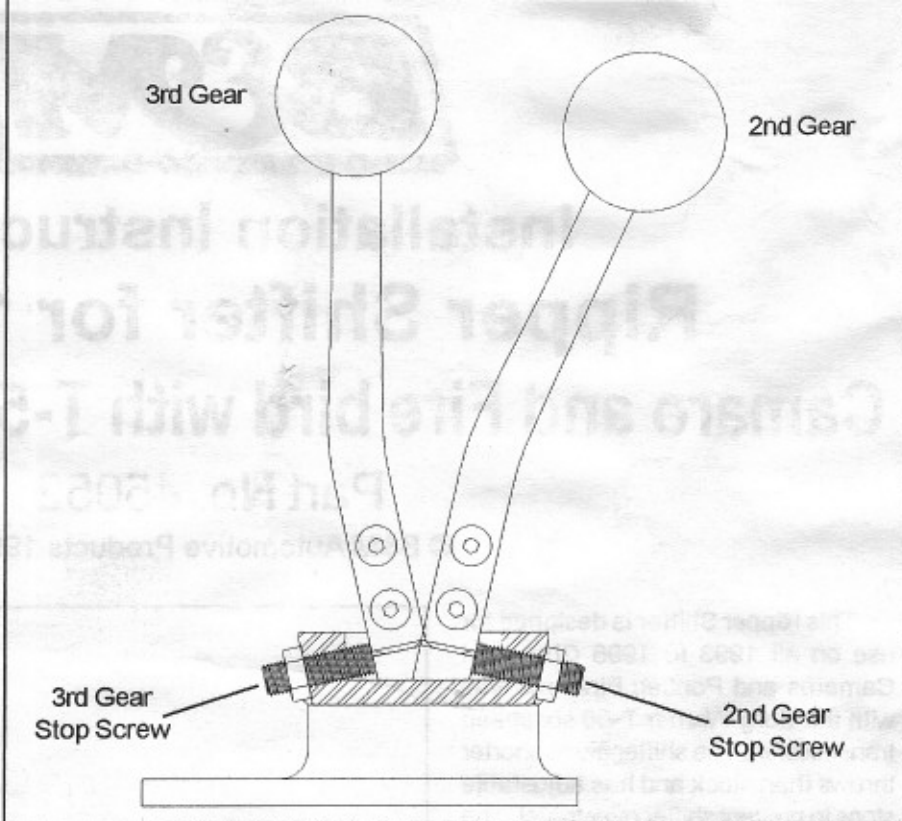

Figure 2
**Step 5.** Check the operation of the shifter. Adjust the stop screws. Pull the shifter back into second gear. Turn the stop screw in with your fingers until it contacts the lower shifter stick. Turn the stop screw out 3/4 of a turn. Hold the stop screw with a 7/32" Allen key and tighten the jam nut securely with an 11/16" box or open end wrench. Push the shifter firmly into third gear and repeat the process with the front stop screw and lock it in place with the jam nut. (See **Figure 2.**)